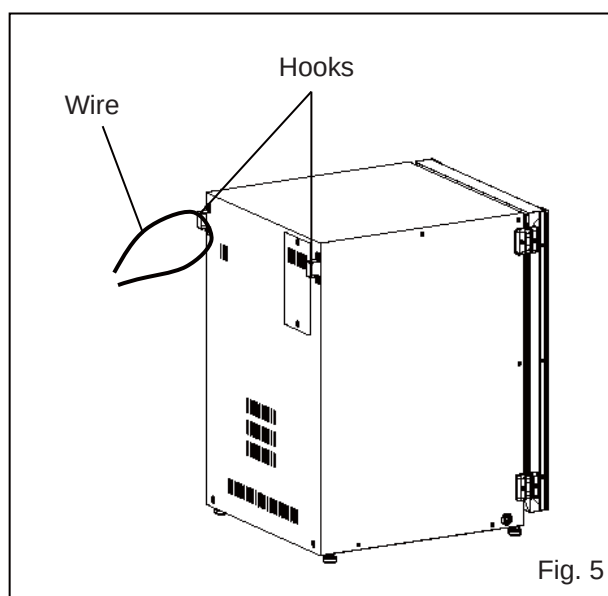

Fig. 5
Note: Two hooks are attached at the upper rear of the incubator. When stacking incubators, fix the upper incubator to the wall with these hooks and wire or chain (Fig. 5).
6. Pull out the fan cover (Fig. 5).